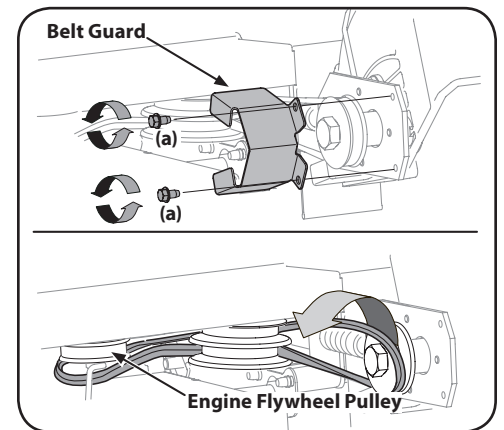

Figure 5-4
3. Remove the spindle sheaves belt guard by removing the two self-tapping screws (a) which secure it to the blade plate assembly. See Figure 5-4.
4. Carefully remove the belt from off of the pulleys, again making sure to note the orientation of the belt. Discard the belt. See Figure 5-4.
**NOTE:** Make certain that the "V" side of the belt is seated into the top pulley and the flat side of the belt is seated into the bottom pulley. See Figure 5-4.